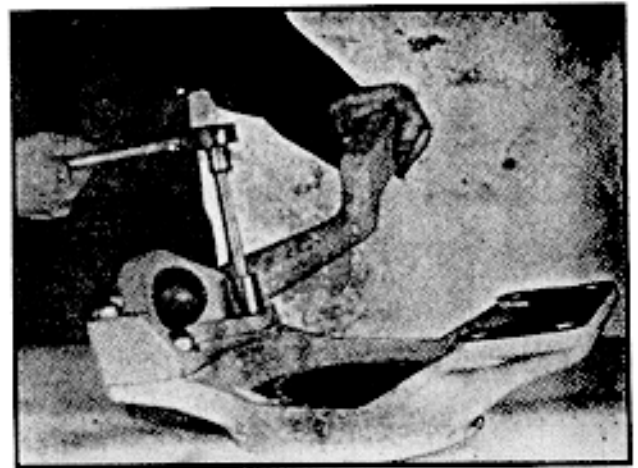

Fig. 25
1. The lower kingpin ball stud and the lower kingpin bearing are exposed for inspection after steps B, C, and D or after step E alone. (See fig. 25.) Back off lower kingpin lock nut. Remove four nuts and washers retaining the lower kingpin bracket and tie rod arm to the spindle yoke. The bracket may now be removed.
3. Position the proper bracket on the studs or bolts, whichever is used., projecting through the spindle yoke. Install the hardened washers and locknuts. Tighten to the specified torque. (See fig. 25).